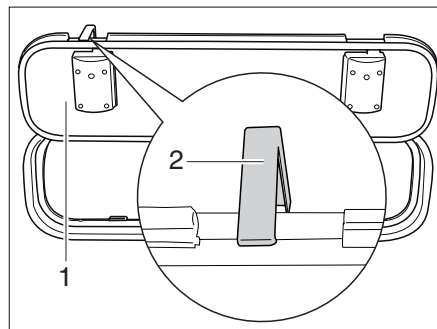

Fig. 32 Securing hook external flap
- ▶ Open the external flap (Fig. 32,1) and turn the securing hook (Fig. 32,2) upwards at the vehicle side.
- ▶ Press the securing hook (Fig. 32,2) upwards.